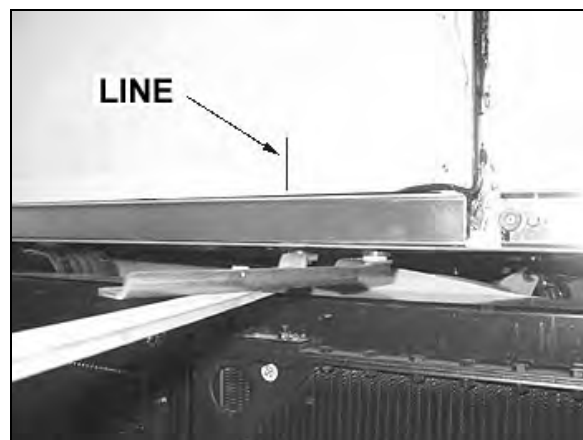

FIGURE 63: REFERENCE LINE
2. Using a rubber mallet, adjust the lower part of pantograph arm in order to get  $4 \pm 1$  mm between lateral panel and engine door (Refer to Figure 63 and Figure 64).